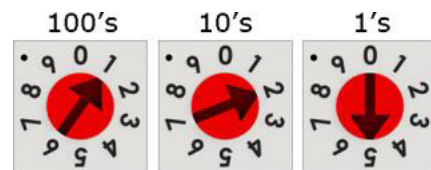

Fig. 13 — Rotary Switches — Set to 125 Value
The rotary switch setting determine the controller number in the i-Vu® interface. Figure 13 provides an example where the rotary switches are set to generate the number 125.
IMPORTANT: Rotary switch settings (see Fig. 13) are used to determine the following items in your system, so you should plan carefully before setting the switches.
1. Set the controller's three rotary switches to a unique address on the network. Set the left rotary switch to the hundreds digit, the middle switch to the tens digit, and the right switch to the ones digit. Refer to Fig. 13.